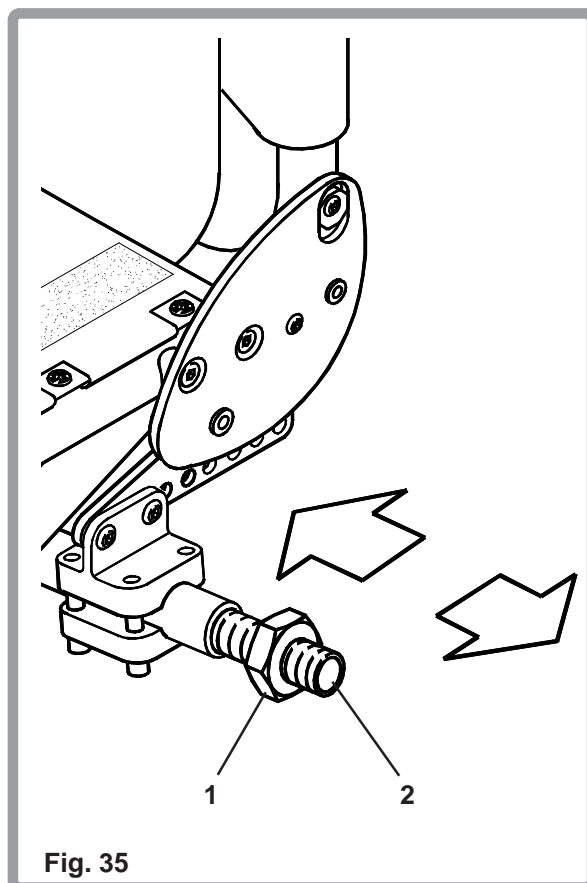

Fig. 35
The wheelbase width (Fig. 35) is adjusted by loosening the 28mm A/F axle sleeve nut (1), and screwing the axle sleeve (2) in or out. The nut must be tightened to 45Nm torque.